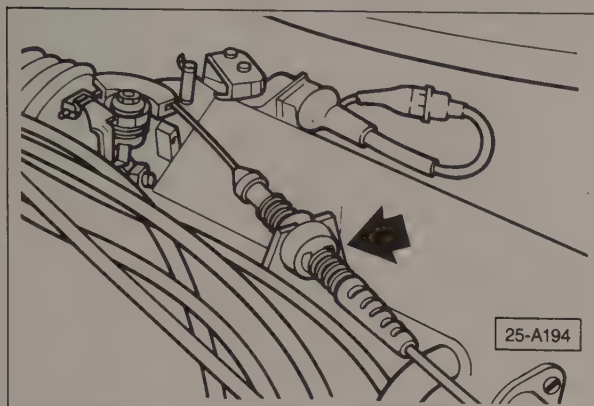

Fig. 4-24. Retaining clip and grommet (arrow) used to adjust accelerator cable tension.
2. If the cable requires adjustment, remove the retaining clip and the grommet from the bracket atop the cylinder head cover. See Fig. 4-24.